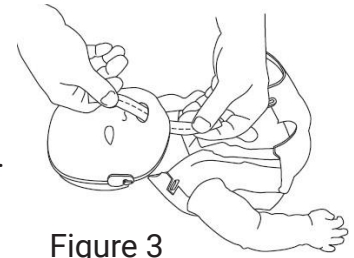

Figure 3
5. Push the lung bag into the mouth until the bag exits through the neck (Figure 3).
6. Grasp the lung bag and pull it through the neck (Figure 3)